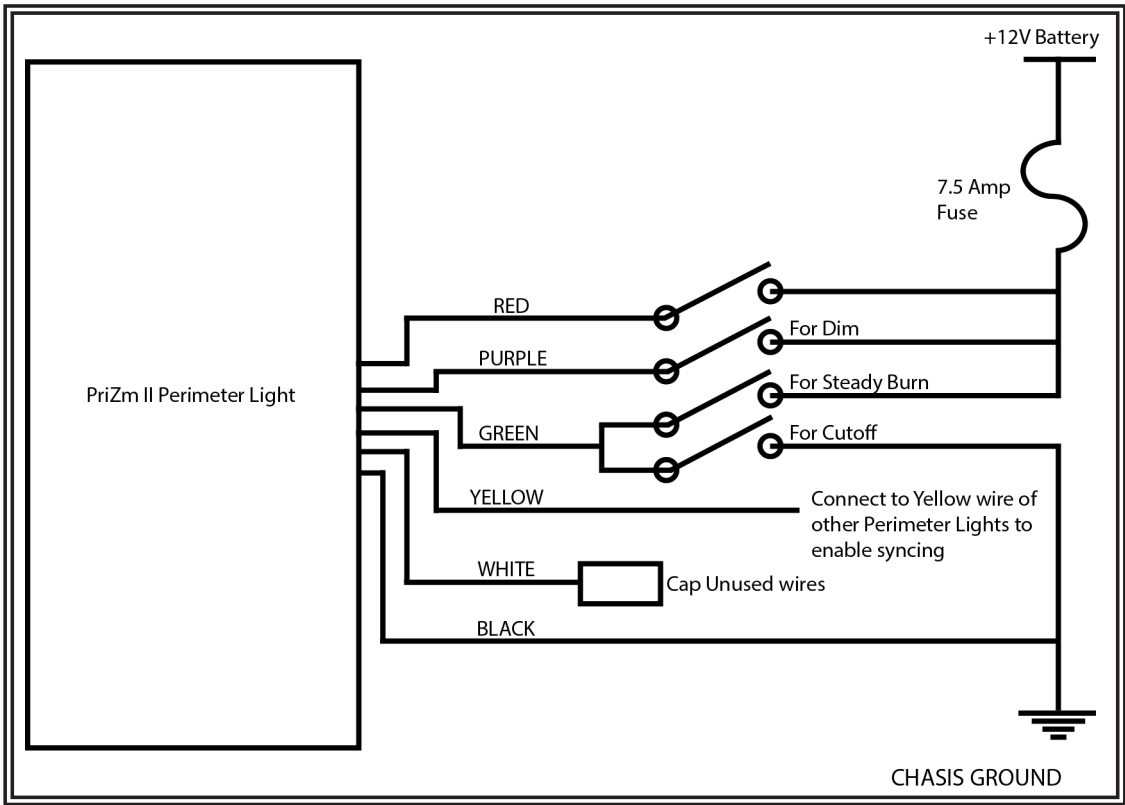

Figure 1
Step 4. Refer to the section "Device Operation" prior to finalizing the electrical connections. Prepare the vehicle power wires and the light heads wires with terminations of the customer's choice (not supplied) as follows: Red: +12 VDC, Black: Ground, White: Program, Purple: Dim, Yellow: Sync, Green: Cutoff (refer to Figure 1). Waterproof connectors are recommended.